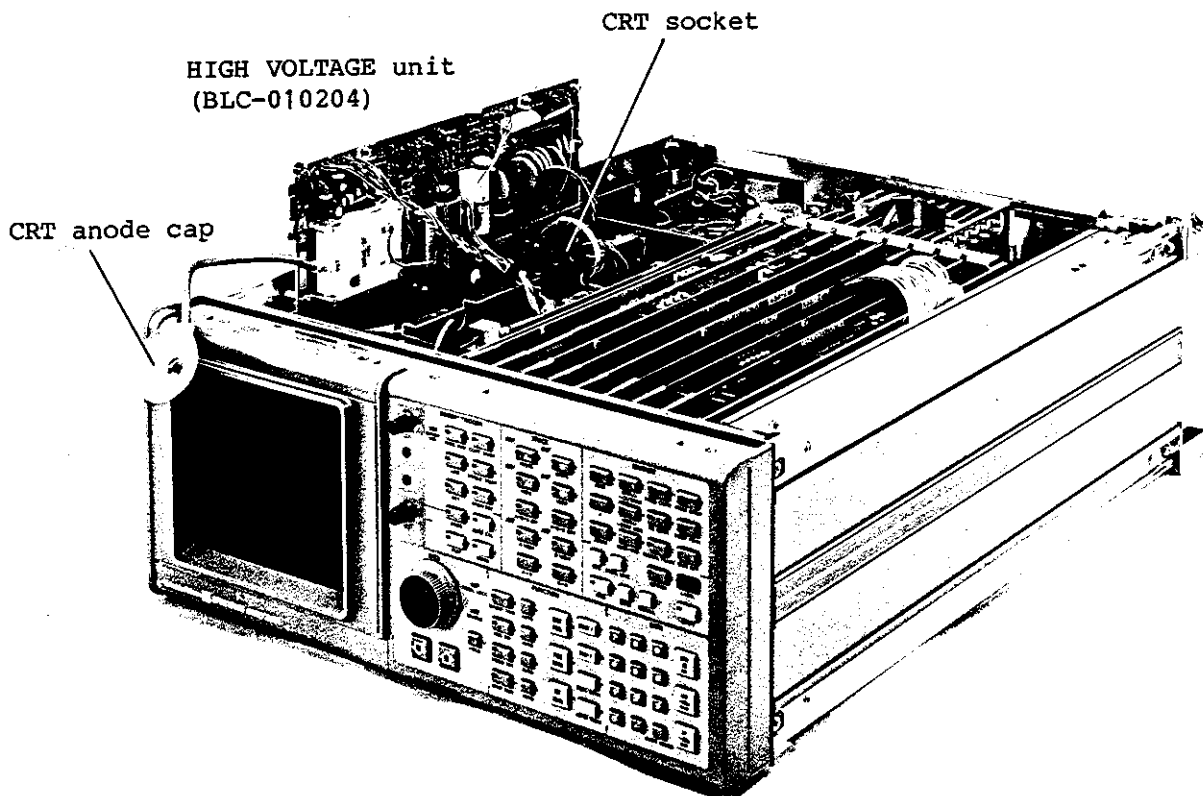

Fig. 11-4 Adjusting high voltage unit
- ③ Remove the High Voltage Unit (BLC-010204) from the Display Section, then temporarily secure it to the top left edge of the cabinet as shown in Figure 11-4.